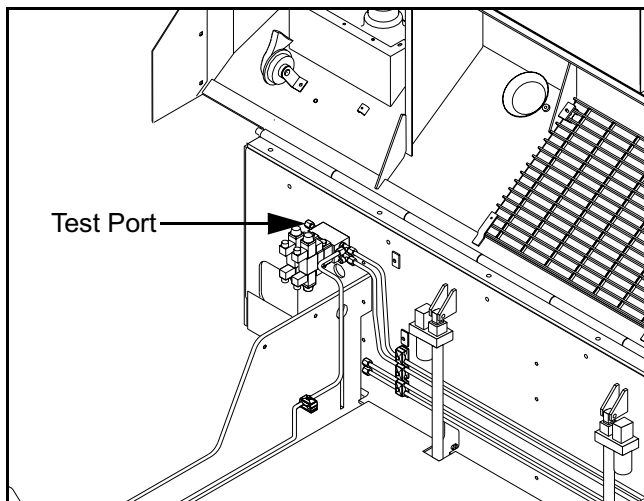

Figure 5 - 18 Auxiliary Pressure Test Port
- 1) Install a pressure gauge (3000 psi) at the auxiliary system test port. (Figure 5 - 18)